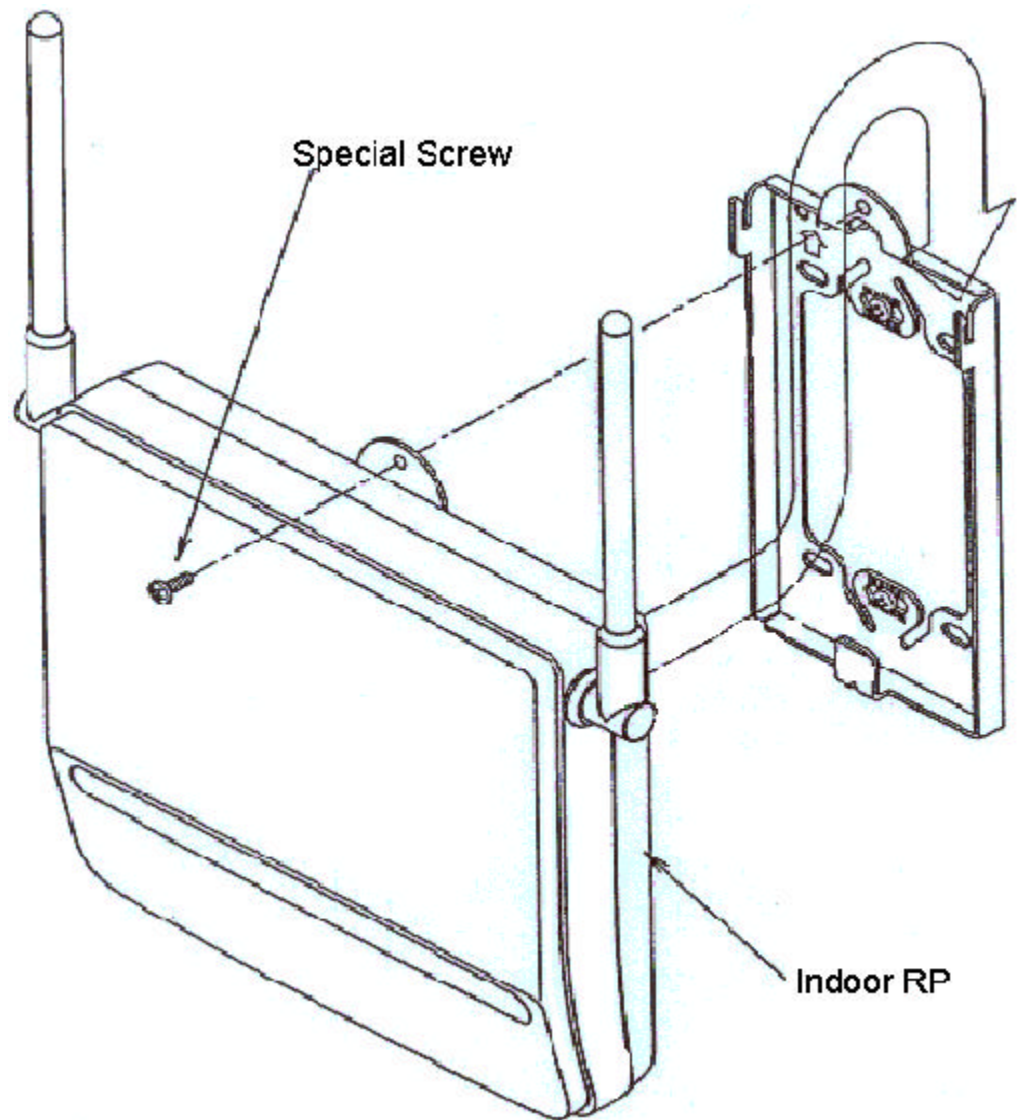

Figure 3-11: Indoor RP and Mounting Plate
4. Attach the indoor RP to the mounting plate with the special screw as indicated in Figure 3-11.